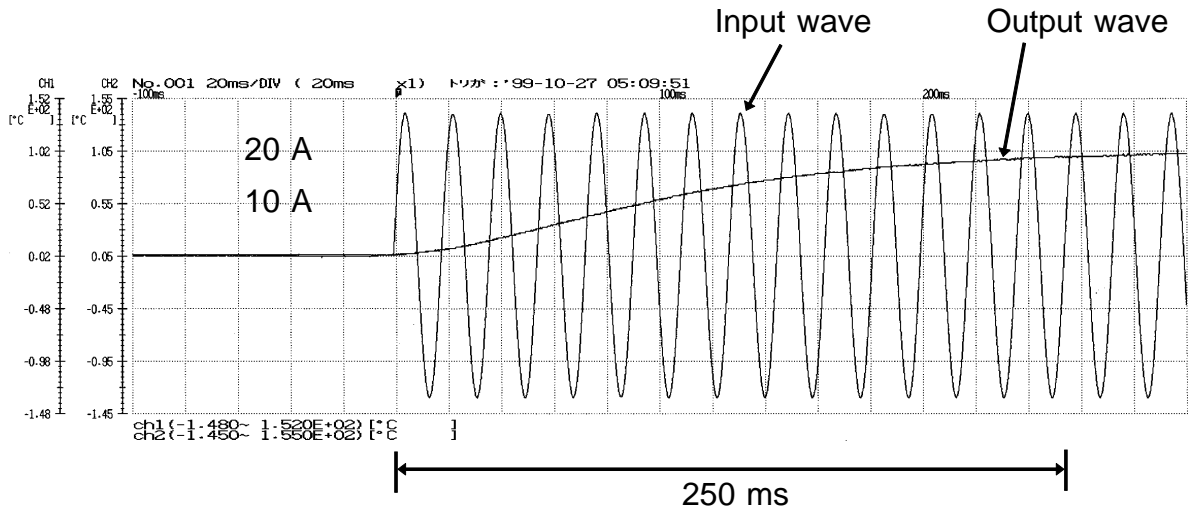

Fig. 2 Waveform of Output Response (Rise)
- **REC** outputs are analog outputs. The output response time during an f.s. input differs between rise (0% to 90%, about 250 ms) and fall (100% to 10%, about 500 ms). (Figs 2 and 3)